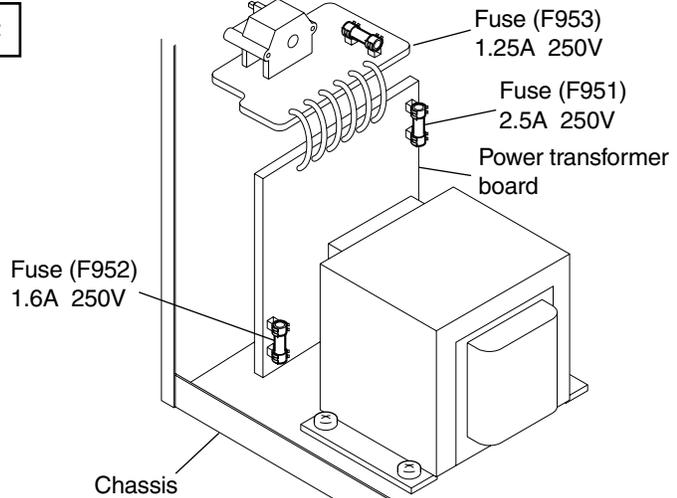
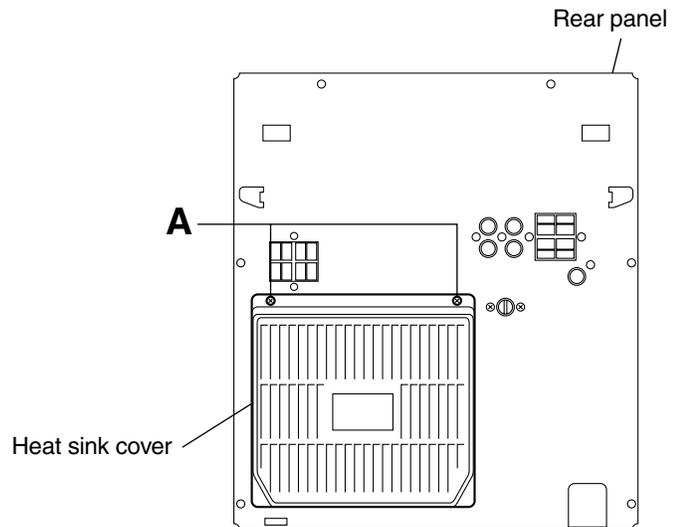

Fig.1
Fig.2
3. Solder is put up before the card wire is removed from connector CN601 on the main board as shown in Fig. 1 and Fig. 2.
#### ■ Replacing the fuses (See Fig.1)
#### ■ Replacing the power IC (See Fig.2 to 4)